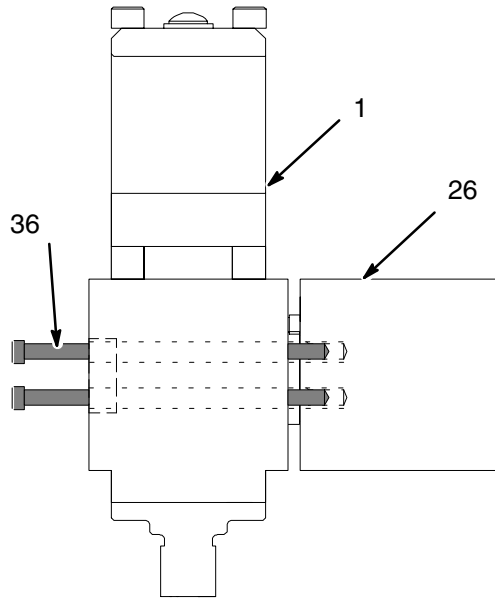

Fig. 3
3. Lubricate, then put two o-rings (33) on dispense valve connector (31).
4. Install connector (31) in manifold (26).
5. Lubricate, then put two o-rings on both small temperature conditioning connectors (34).
6. Install connectors (34) in manifold (26).
7. Install two 1/16"-27 NPT pipe plugs (30) in the conditioning manifold's two unused ports.
8. Carefully push together the dispense valve, connectors, and manifold until they bottom out (Fig. 3). Be careful not to damage the o-rings.